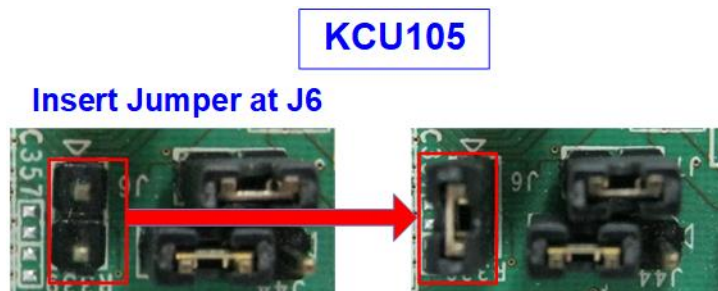

Figure 1-8 Insert jumper to enable SFP+ on KCU105
- c) Board setting on KCU105 board is shown in Figure 1-8. Insert jumper to J6 to enable Tx SFP+.